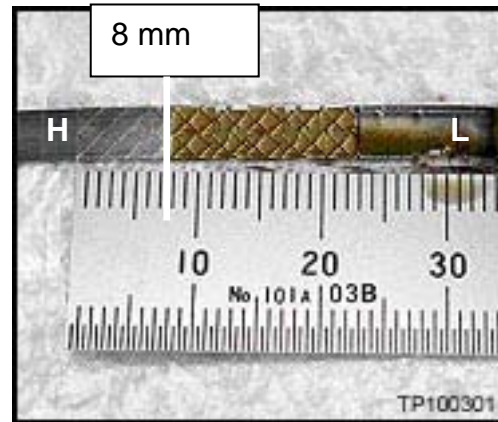

Figure 5
12. Park the vehicle on a level surface with the engine stopped for at least ten (10) minutes.
13. Write down the exact oil level reading using the engine dipstick and ruler (see Figure 5).
- The example in Figure 5 shows the oil level is 8 mm below the H mark.